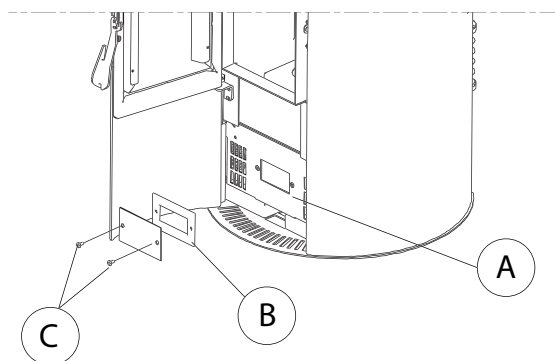

Fig. 6.1.2
- for easy access to the fan (A), simply remove the lid (B) by adjusting the two screws (C) (Fig. 6.1.2).